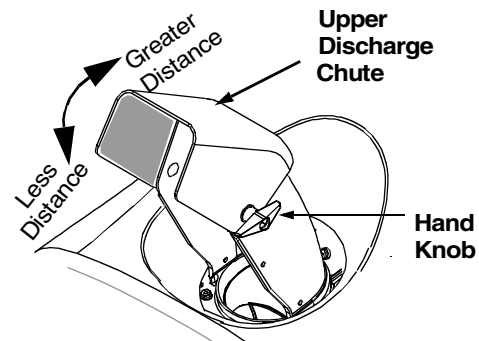

Figure 7
- Adjust the upper discharge chute up or down as shown in Figure 7. You will have to loosen the hand knob to adjust the upper chute, and then retighten after correct adjustment is reached.